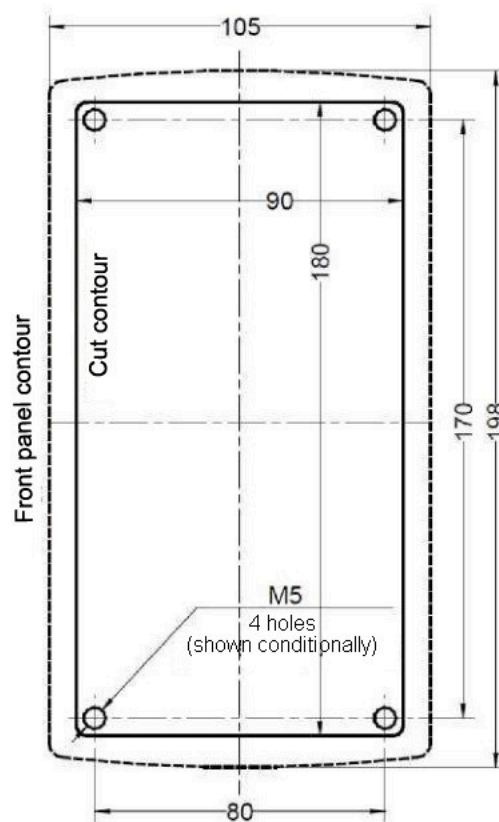

Fig.1 Markup for installation of the outdoor panel
2. Prepare a niche for installing the outdoor panel (see the markup in Figure 1).